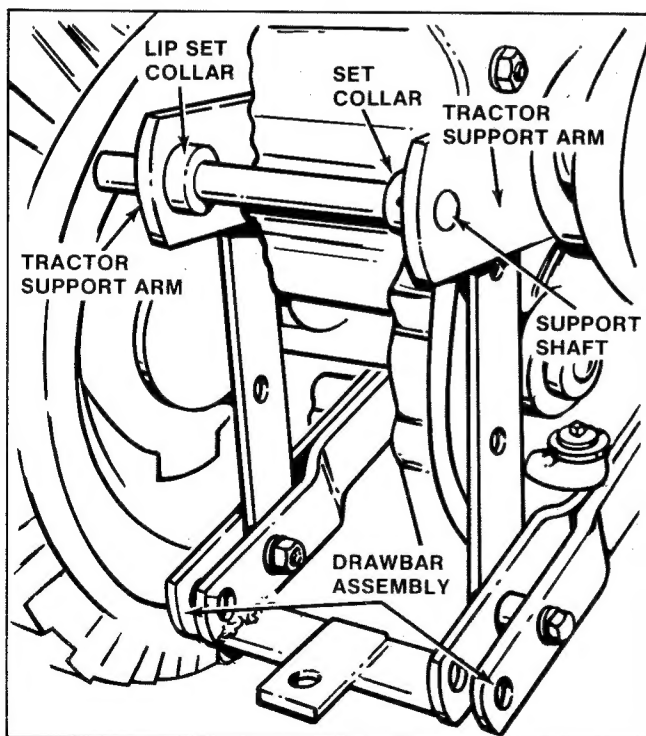

Figure 14. Installing Support Shaft
1. For tractors without a rear lift kit installed on the tractor, a support shaft and two collars are provided for installing the vacuum collector on the tractor. (On tractor with a rear lift kit installed, proceed to step 2.) On tractors without a rear lift kit, place the two set collars provided on the support shaft, the larger collar with a lip going on the left side with the lip facing outward. Position the support shaft in the tractor support arms on the tractor so that the lip of the larger collar fits inside the left support and the end of the shaft is flush with the outside edge of the right support arm. Tighten the set collars so that there is no play from side to side in the support shaft. (See figure 14.)